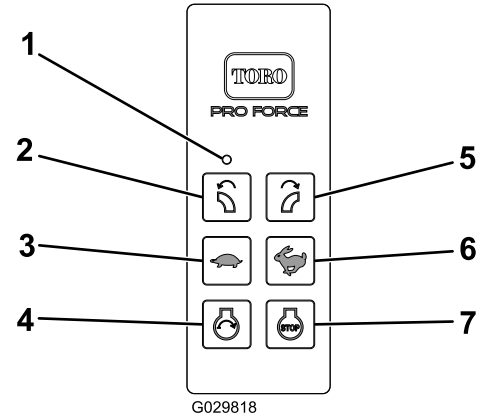

Figure 13
4. Engine Start will only become energized by pressing the Start button while the Engine Start Enable Condition is active. The Engine Start Enable Condition becomes active only when the following Engine Start Enable Sequence has been performed (Figure 13):